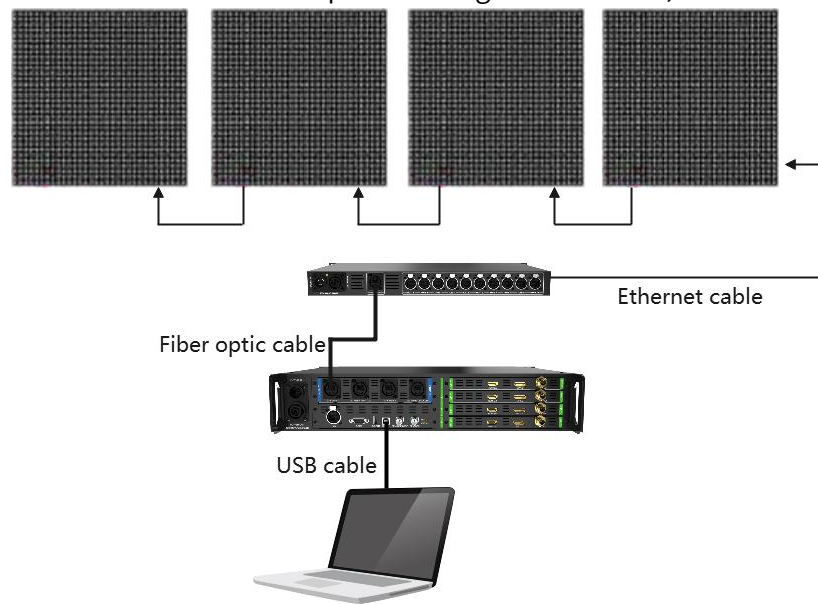

Fig 2.1.1 Device connection topology
Step 1: Cabinets should be connected to the optical fiber transceiver via an Ethernet cable. The optical fiber transceiver and sender are connected with a fiber optic cable. Then connect the sender to the computer through a USB cable, as shown in Fig 2.1.1.